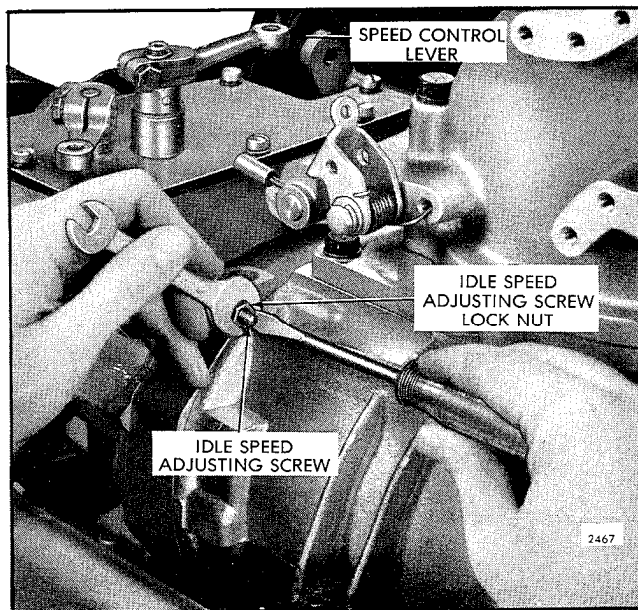

Fig. 9 - Adjusting Engine Idle Speed
1. With the engine running at normal operating temperature and with the buffer screw backed out to avoid contact with the differential lever, turn the idle speed adjusting screw (Fig. 9) until the engine operates at approximately 15 rpm below the recommended idle speed.